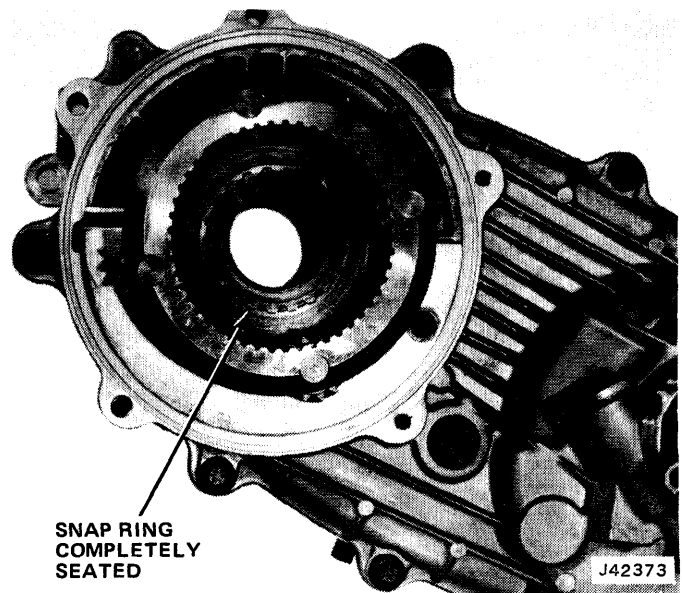

Fig. 8-22 Reduction Pinion Cage—Installed Position
(1) If removed, install pinion cage on transfer case drive sprocket splines.
(2) Install retaining snap ring. Be sure snap ring is seated completely in groove (fig. 8-22).
(3) Clean sealing ring groove in transfer case cover and install sealing ring.
(4) Lift reduction unit and mesh caged pinions with sun gear and ring gear, and align sun gear inner splines with transmission output shaft splines.
(5) Move reduction unit forward until it contacts sealing ring.
(6) Install reduction unit attaching screws. Alternately tighten screws to 15 foot-pounds torque.
(7) Connect shift lever linkage at reduction unit control lever.
(8) Fill reduction unit and transfer case assembly with proper quantities and types of lubricants. Refer to Lubrication and Stick Slip Correction for quantity, type, and procedure.